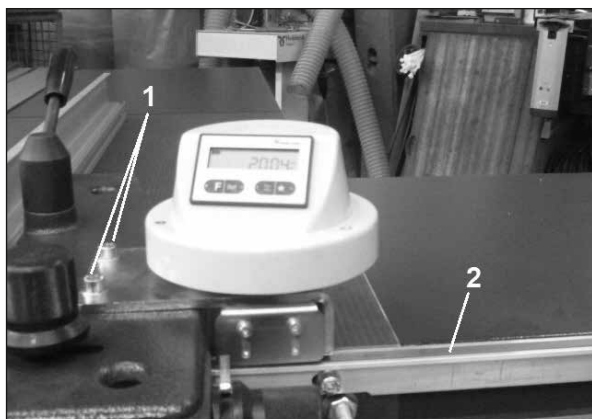
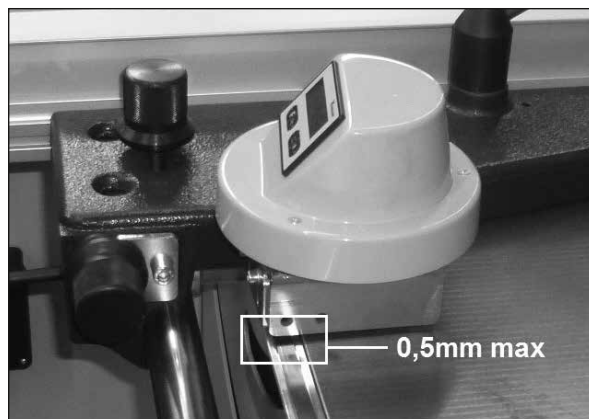

Fig.25
Fig.26
Put the digital read-out onto the parallel fence support block using the 2 holes already drilled (1). Now put the aluminum profile (2) holding the magnetic strip onto the saw table at 1 mm below the table's front edge (fig.25). Make sure the sensor is put in the middle of the magnetic strip, and the distance between strip and sensor is set at 0,5 mm maximum (fig.26) Make sure the sensor stays at maximum 0,5 mm over the entire length of the magnetic strip.